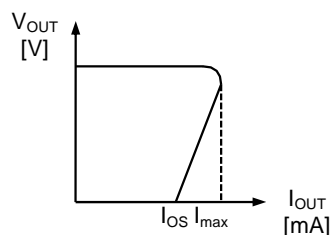

Figure 19
The S-87x Series has a built-in short-circuit protection circuit to protect the element from break caused by a large current in case of a short circuit. The output short current is internally limited to approx. 70 mA. Short-circuit protection circuit has three kinds characteristics according to input voltage (V_{IN}) as shown in **Figure 19 to 21**.
- (1) At the time of voltage detection, the voltage regulator is shutdown and load current is cut. Therefore, VIN pin voltage increases by $\Delta V_{IN} = I_{IN} \times R_{IN}$, where the current flowing into R_{IN} is set to I_{IN} . Hence, if ΔV_{IN} exceeds hysteresis width (V_{HYS}), oscillation starts immediately after detection and continues. It is necessary to set ΔV_{IN} less than V_{HYS} .
- (2) At the time of voltage release, the voltage regulator is powered on and load current flows. Therefore, if ΔV_{IN} exceeds hysteresis width (V_{HYS}), oscillation starts immediately after release and continues. It is necessary to set ΔV_{IN} less than V_{HYS} . Also at the time of voltage release, the rush current to charge output capacitor (C_{OUT}) flows. Hence, oscillation momentarily starts until the output of regulator (V_{OUT}) rises high enough even though ΔV_{IN} is set less than V_{HYS} . But Short-circuit protection circuit controls the rush current less than I_{MAX} on Figure 19 to 21. If this momentary oscillation is a problem in your applicaion, setting R_{IN} less than V_{HYS}/I_{MAX} prevents oscillation.